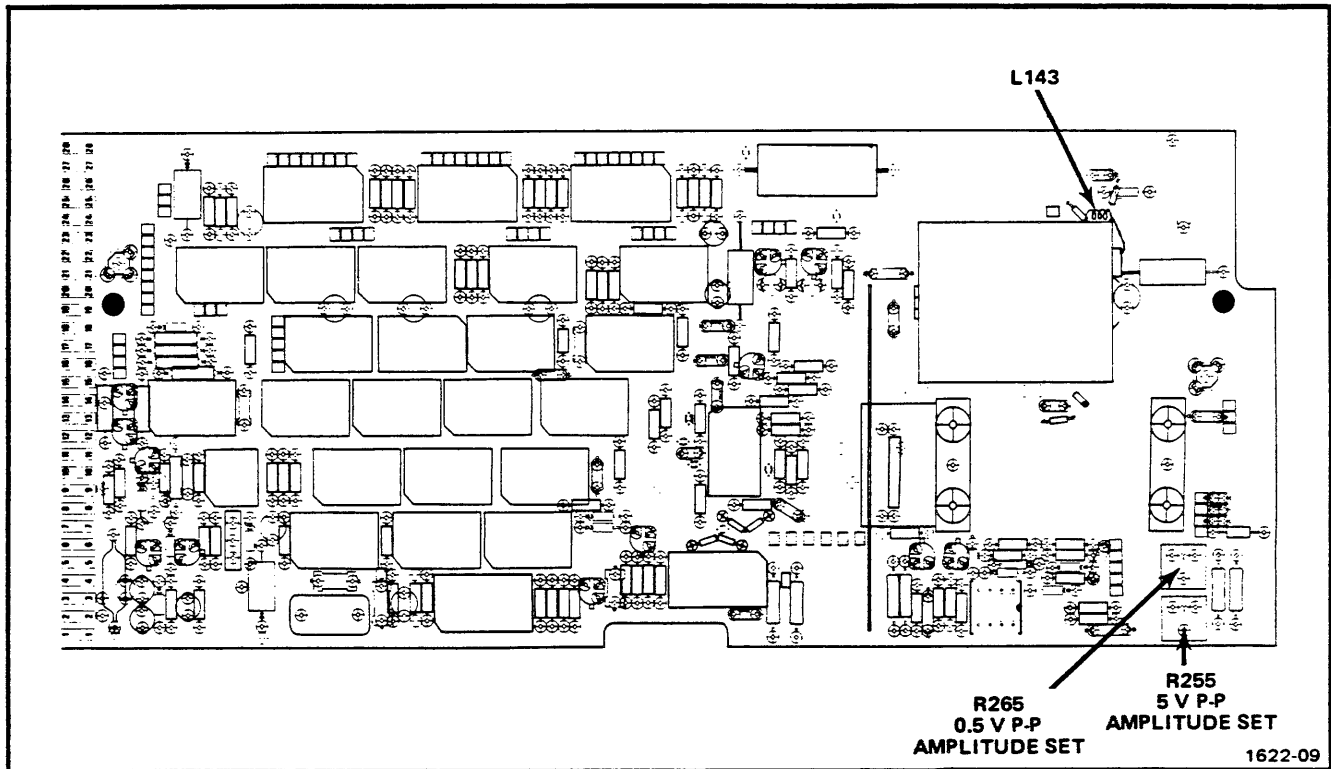
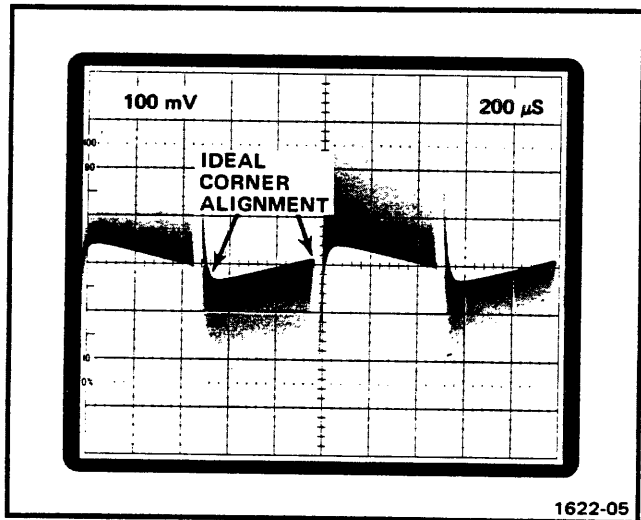

Fig. 3-2. Location of L143, 0.5 V P-P, and 5 V P-P Amplitude Set.
Fig. 3-3. Display of complex waveform (idealized) obtained when the amplitude set controls are properly adjusted at 0.05 MHz.
d. Set the time-base triggering controls for a stable display; a crt display similar to Fig. 3-3 is obtained.
e. Check—that the corners of the idealized waveform are aligned as illustrated in Fig. 3-3. Disregard waveform tilt.
f. Adjust—5.0 P-P Amplitude Set, R255, so the corners of the idealized waveform are aligned as illustrated in Fig. 3-3. See Fig. 3-2 for adjustment location.
i. Check—that the waveform is similar as illustrated in Fig. 3-3.
j. Adjust—0.5 V P-P Amplitude Set, R265, so the corners of the idealized waveform are aligned as illustrated in Fig. 3-3. See Fig. 3-2 for adjustment location.
- c. Check—that the corners of the idealized waveform are not separated by more than 1.5 vertical divisions. See Fig. 3-3 for waveform illustration.
- g. Check—that the corners of the idealized waveform are not separated by more than 1.5 vertical divisions. See Fig. 3-3 for waveform illustration.
e. Adjust—L143, (physically moving coil), to meet the suppression requirement as given in part d of this step. See Fig. 3-2 for adjustment location.